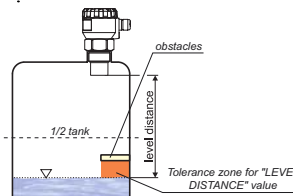

Fig. 17: The "Level distance" zone
2. Now the item "TEACHING" is displayed. Press the button **[OK]** to set the value "LEVEL DISTANCE" – the expected distance of the sensor front from the medium surface level. If you do not know the level distance exactly, set a smaller value (in the tolerance field according to Fig. 17.).